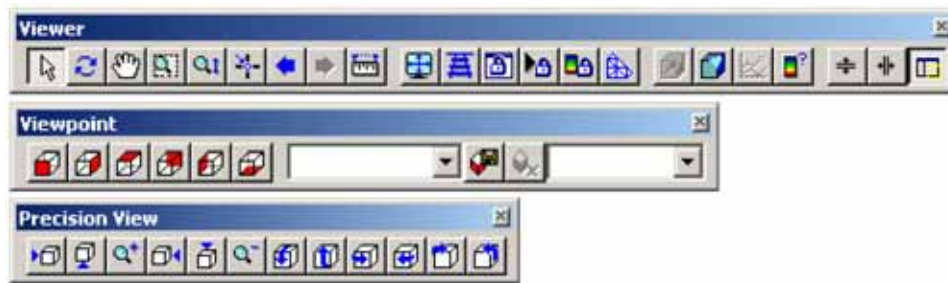

Figure 107: Toolbars used for manipulation
- Use the tools on the **Viewer**, **Viewpoint**, and **Precision view** tool bars, shown in Figure 107, as necessary to aid in viewing the results.